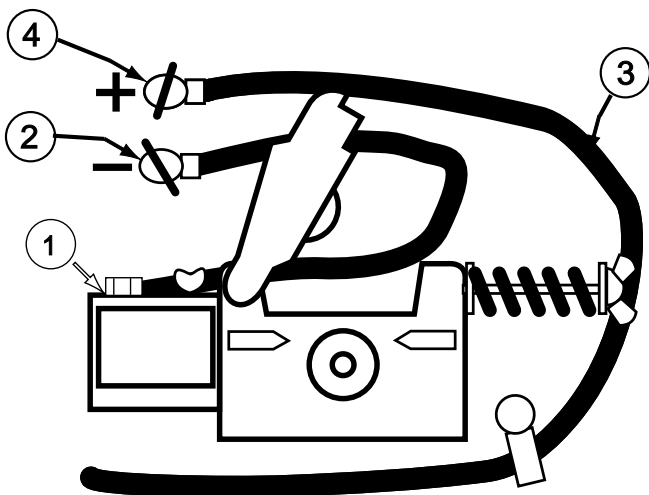

FIGURE A.4
5. **For Innershield Only:** Refer to Figure A.4. To wire for negative polarity (required for the Innershield process), connect the short cable attached to the connector block (1) to the negative (–) output terminal (2) and the work cable (3) to the positive (+) terminal (4).